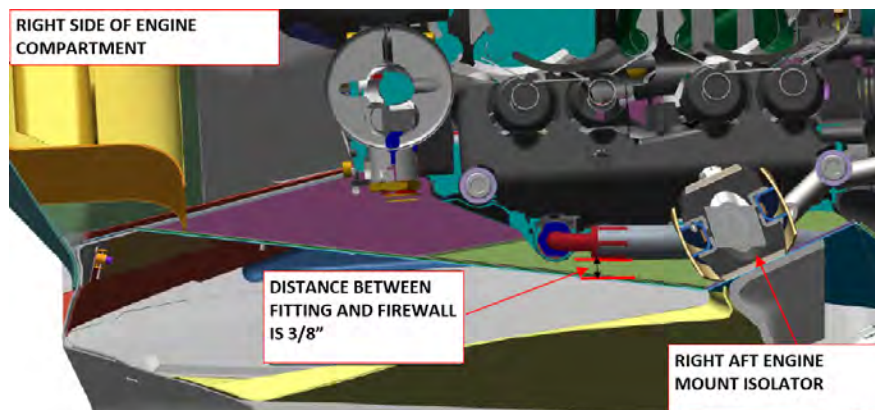
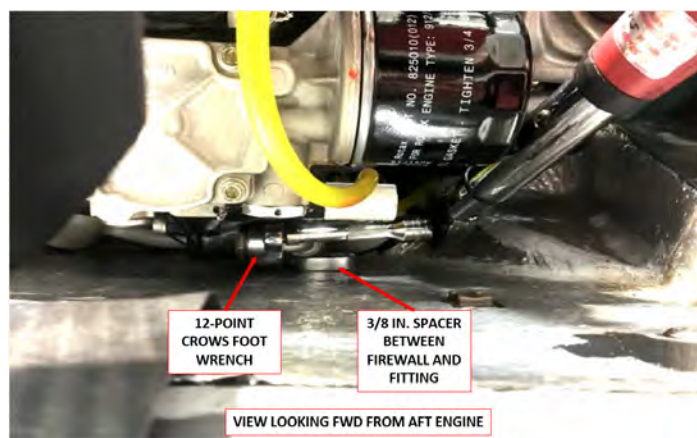

FIGURE 16-12
FIGURE 16-13
13. Ensure that there is a clearance of approximately 3/8" between the firewall and engine oil return fitting using a 3/8" spacer. (See Figure 16-12.) If the clearance is less, lightly loosen the fitting and use a 7/8" 12-point crows foot wrench to torque the fitting. (See Figure 16-13.)